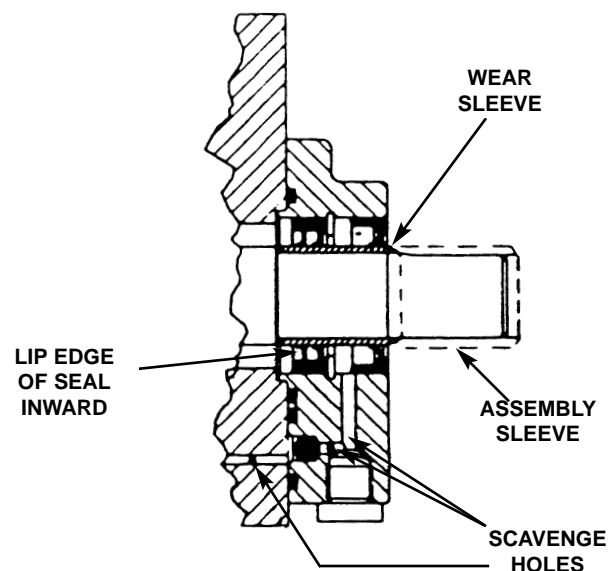
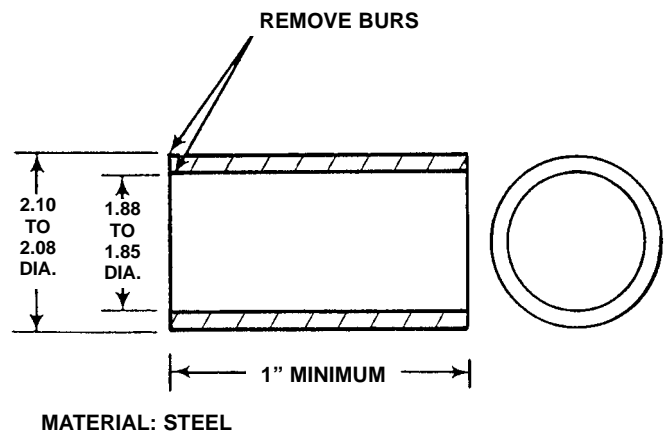

FIGURE 4.8-3 SHAFT SEAL ASSEMBLY (30 HP)
FIGURE 4.8-4 SEAL INSTALLATION TOOL
10. Clean scavenge holes in seal housing and in the rotor housing (See Figure 4.8-3).
15. Remove the seal from the assembly sleeve, and using the Seal Installation Tool, (See Figure 4.8-4) press the double lip seal into the seal housing from the inboard side until it “locates” against the retaining ring. The seal should be oriented such that the edge of the lip of the seal is toward the installer (See Figure 4.8-3).
18. Remove the seal from the assembly sleeve and, using the Seal Installation Tool, press the seal into the seal housing from the outboard side until the seal is flush with the surface of the seal housing. Do **not** push the seal beyond the flush position. The seal should be oriented such that the edge of the lip of the seal is inserted first (See Figure 4.8-3).